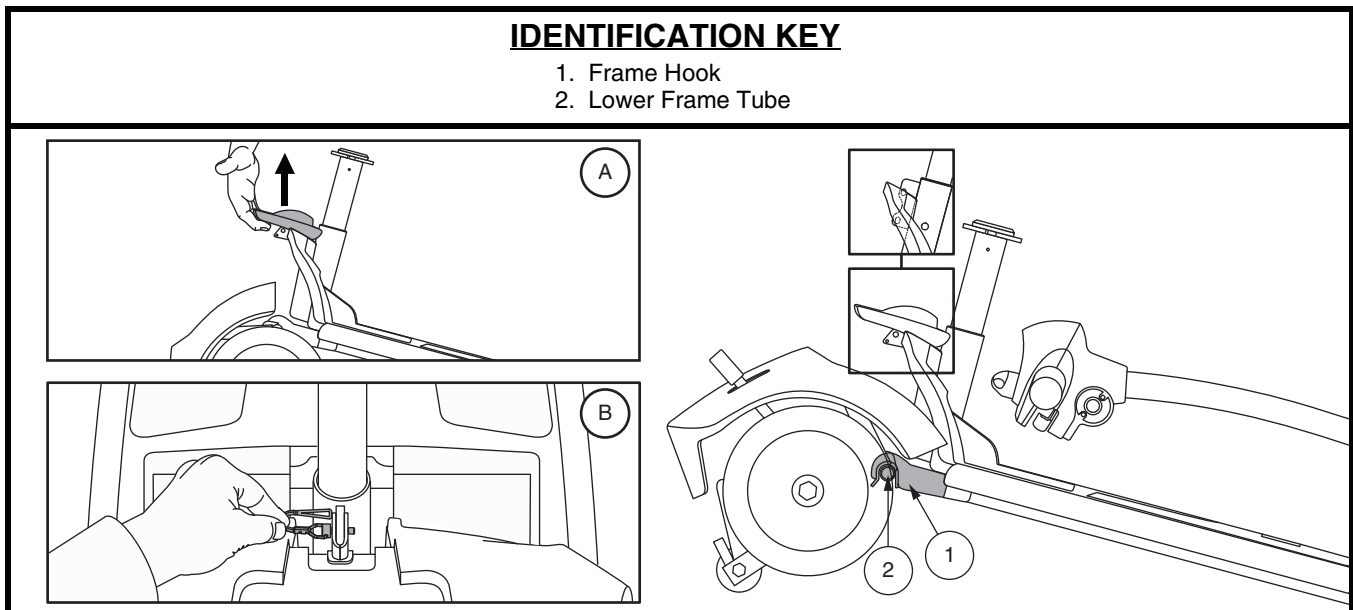

Figure 26. Frame Release Lever (Style A) and Frame Release Lock-up Pin (Style B)
4. Slowly separate the two sections of the Travel Scooter. See figure 26.
**NOTE:** Before attempting assembly, tilt the rear half of the Travel Scooter slightly back on the anti-tip wheels as shown in figure 26.
1. Use the frame release lever (or the seat post for models 36, 83, and 84 only) to lift the front section as you align the frame hooks of the front section with the lower frame tube of the rear section. See figure 26.
2. Once the frame hooks are over the lower frame tube, lower the front section and pivot the rear section simultaneously. This will engage the frame lock-up automatically for models 40X, 44X, 40E, 44E, 40LX, 44LX, 50LX, 54LX, 53, 53HD, 54, 54HD, 73, and 74. For models 36, 83, and 84, you will also need to reinstall the frame lockup pin to complete the body assembly. See figure 26.